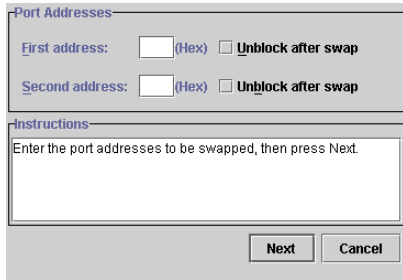

Figure 62 Swap Ports dialog box
1. Select **Maintenance > Swap Ports**. The Swap Ports dialog box appears, as shown in Figure 62.